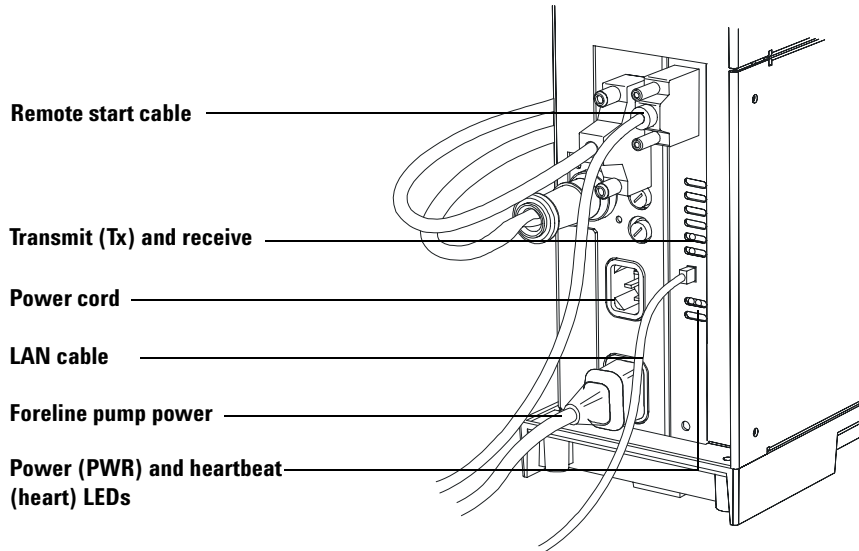

Figure 6 Foreline pump power plug
- 8 Connect the foreline pump power cord to the receptacle on the rear of the MSD. See Figure 6.